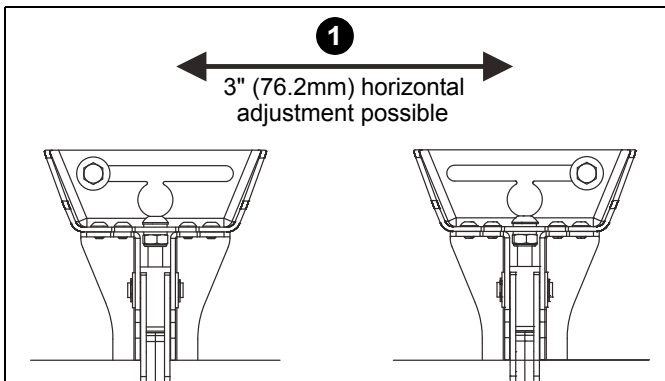

Figure 14
1. The mount wall brackets may be adjusted side-to-side at the point of attachment. (See Figure 14)